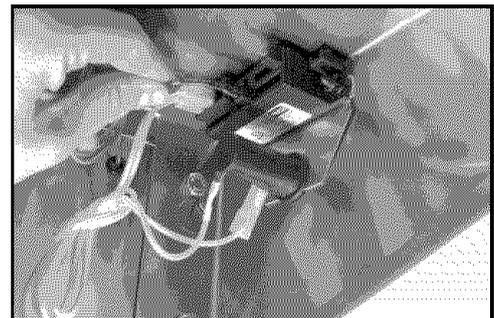

Fig. 3
2. Attach the four (4) wires coming out from the left side of the grill to the igniter terminals. (See Fig. 3)